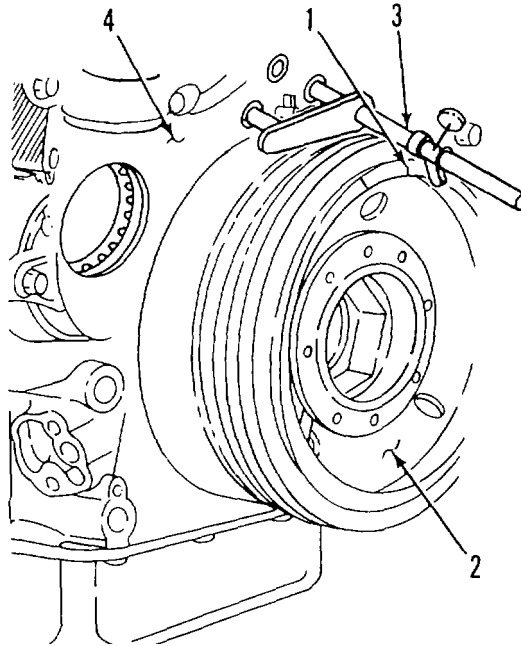

Figure 3-14. Timing Marks and Timing Tool
- (6) Align injection timing mark (1, Figure 3-14) on crankshaft pulley (2) with pointer of timing tool (3) as follows:
- (a) Install timing tool (3) on engine front cover (4). Position pointer so that the pointed end almost contacts the outside edge of the crankshaft pulley.
- (b) Rotate crankshaft pulley clockwise (CW) until valves on No. 1 cylinder overlap. Then turn pulley CW 3600 (one full turn).
- (c) If necessary, align first mark (1) on crankshaft pulley next to pointer of timing tool (3) by rotating crankshaft pulley (3) CW.
- (8) If crankshaft pulley is to be replaced, locate the true Top Dead Center (TDC) and establish timing marks as follows:
- (a) Install timing tool (3, Figure 3-14) on engine front cover (4). Position pointer so that the pointed end almost contacts the outside edge of the crankshaft pulley.
- (e) Rotate crankshaft pulley (2, Figure 3-14) CW until the piston lightly contacts the open exhaust valve. Then scribe a mark even with the pointer on the crankshaft pulley (2).
- (d) Rotate front pulley CW until the timing mark (1, Figure 3-14) is exactly aligned with the reference pointer of timing tool (3) and the piston for No. 1 cylinder is traveling toward TDC compression stroke.